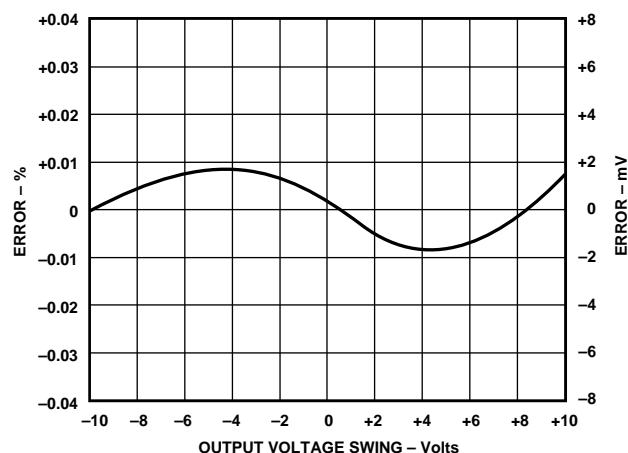

Figure 12. Gain Nonlinearity Error vs. Output
**Gain Nonlinearity vs. Output:** Gain nonlinearity is defined as the deviation of the output voltage from the best straight line, and is specified as % peak-to-peak of output span. The AD210B provides guaranteed maximum nonlinearity of  $\pm 0.012\%$  with an output span of  $\pm 10$  V. The AD210's nonlinearity performance is shown in Figure 12.